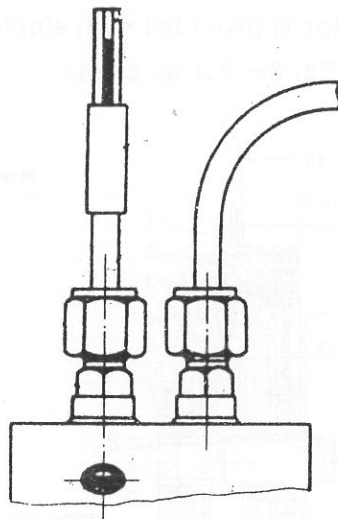

Fig. 3-2
a. Dismount the high pressure fuel pipe of the first cylinder and mount a glass capillary tube to the fuel outlet port of the first cylinder (Fig. 3-2).